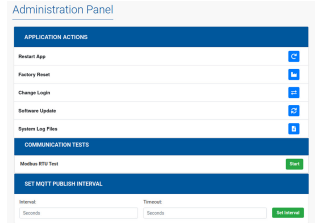

Figure 2.8: WCD-ED300's administration page
- Fit the bottom of the bracket onto the DIN rail without detaching the top. Figure 2.8 and Figure 2.9 illustrate the process of mounting the gateway on the DIN rail.